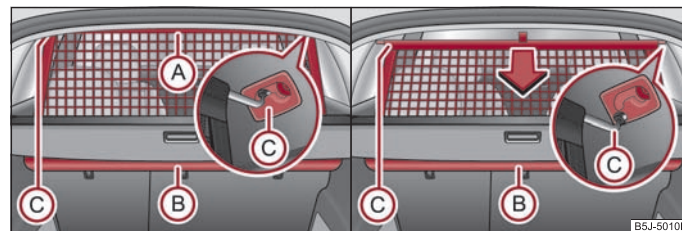

Fig. 65 Pull out the net partition / roll up
- Pull the net partition at the bracket **(A)** out of the housing **(B)** in direction of the holders **(C)** ⇒ fig. 65.
- Pull the cross rod back slightly, first on the one side then on the other side and take the cross rod out of the mounts (C) ⇒ page 68, fig. 65.
- **Hold** the cross rod in such a way that the net partition can roll up slowly and without damage into housing (B).